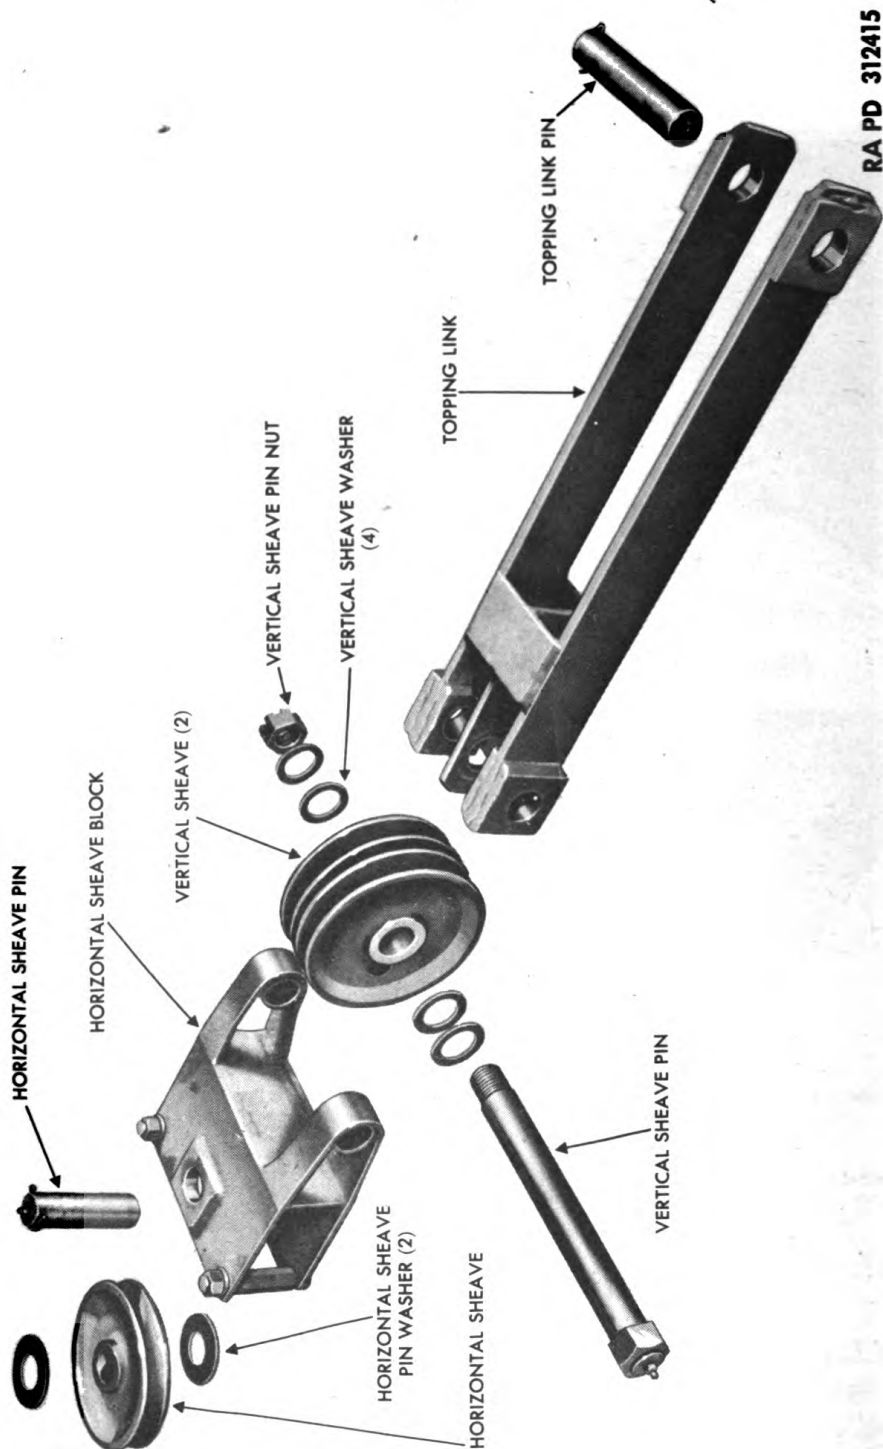

Figure 20 — Topping Link — Disassembled
c. **Disassemble Topping Link** (fig. 20). Remove cotter pin, nut and bolt attaching the horizontal sheave block to the topping link. This will disconnect the topping link from horizontal sheave block. Remove horizontal sheave pin cotter pin and drive out of block and sheaves. Remove sheave and washers either side of sheave. Remove topping link to boom attaching pin.
d. **Install Topping Link Assembly.** Insert the horizontal sheave pin through sheave side member and install washer on pin. Install sheave and another flat washer on pin and run sheave pin through horizontal block side member. Install cotter pin in the sheave pin. Install two flat washers under head of the vertical link sheave pin and run the pin through block, topping link and sheaves and install two flat washers. Install castellated nut and cotter pin. With the topping link and horizontal block connected, position them on the boom, install topping link pin and install cotter pin (fig. 20).